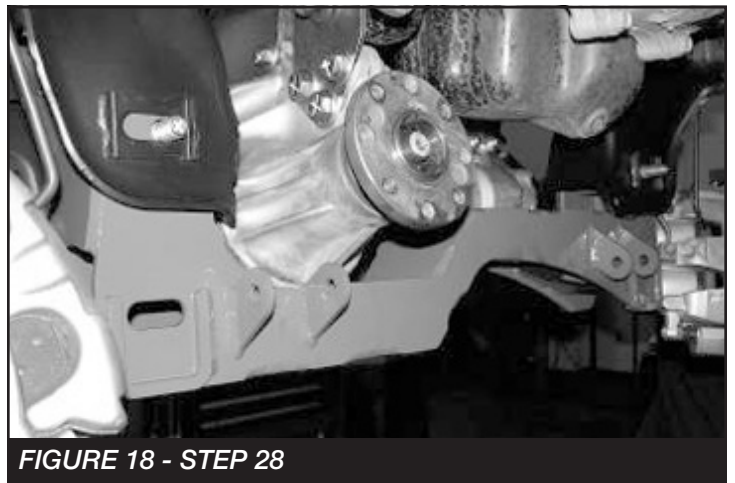

FIGURE 18 - STEP 28
28. Locate FT44089BK rear crossmember and install it into the frame pockets using the 5/8" x 5 1/2" bolts, nuts, and washers. Leave loose at this time. **SEE FIGURE 18**